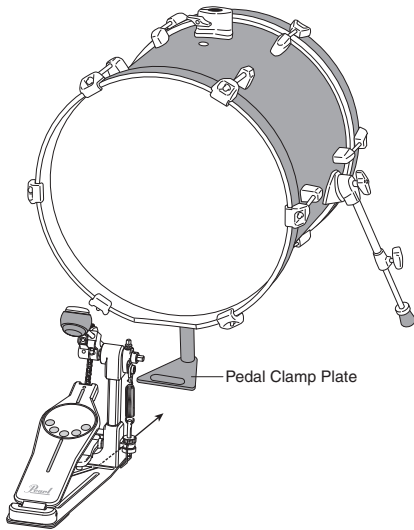

Fig.6
4. Insert the Pedal Clamp Plate into the Clamp Plate Base as shown and tighten the Wing Bolt to secure. Loosen the Wing Nut on the Bass Drum Spur and rotate it to the position shown in Fig.6. Tighten the Wing Nut to secure. Loosen the Wing Bolt and extend the Spurs making sure that both sides are equal in length, and tighten the Wing Bolt to secure. The Bass Drum Spurs have Spike Tips (for added slip resistance) that can be exposed by turning the Lock Nut and Rubber Tip clockwise (Fig.5).
Position the Bass Drum upright as shown and attach your Bass Drum Pedal to the Pedal Clamp Plate. Adjust the height of the Pedal Clamp Plate and the length of the Spurs if necessary. When making the adjustment, hold the Bass Drum with one hand to prevent the drum from falling over. When the height is set, make sure to tighten the Wing Bolts on the Clamp Plate Base and the Spurs, and the Stop Lock on the Pedal Clamp Plate (Fig.6).